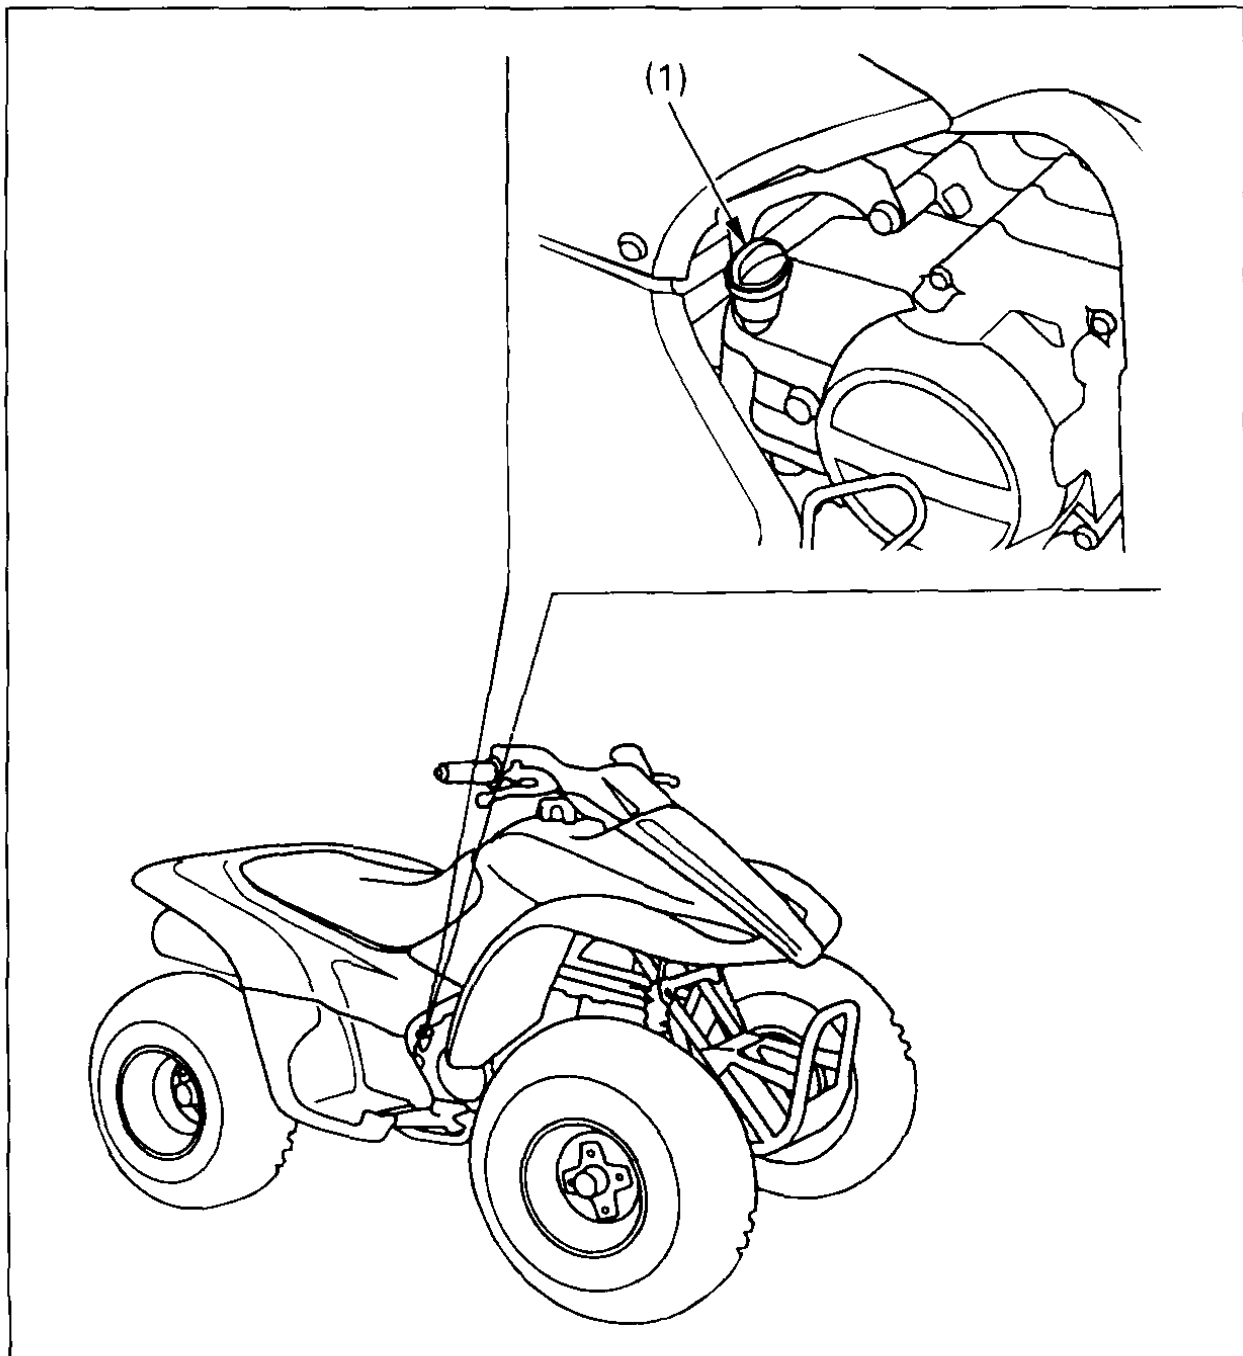

Fig. 2-19
The oil filler cap/dipstick (Fig. 2-19), on the right crankcase cover, is used to measure the oil level. The oil should be checked each day before operating the Sportrax and maintained between the upper level mark (2) and the lower level mark (3).